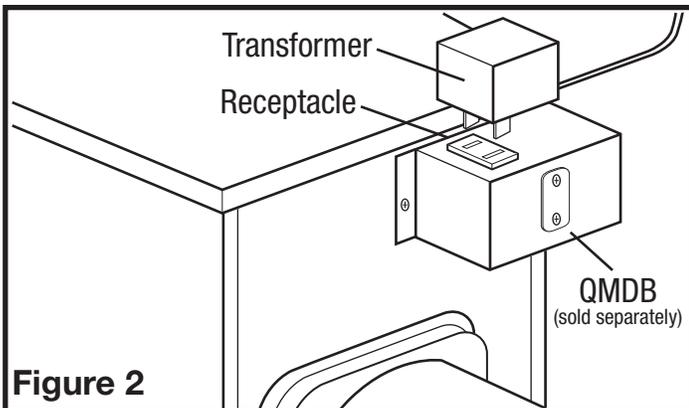

Figure 2
2. Plug the 24VAC transformer into the receptacle on the QMDB (Figure 2).